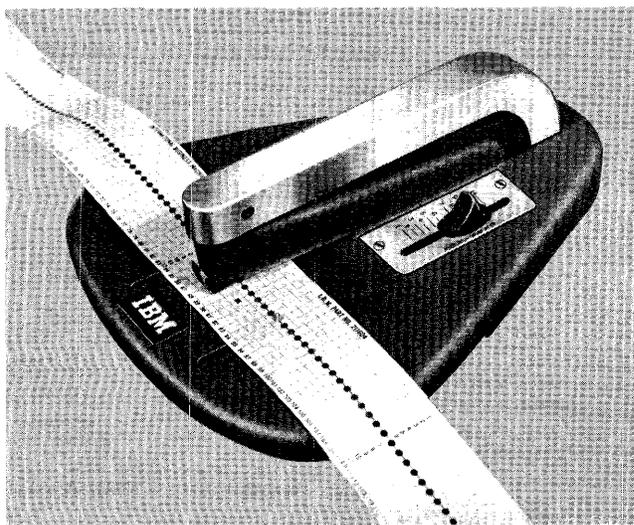

Figure 15. Tape Punch
**Six-Lines-per-Inch Spacing:** A small, compact punch (Figure 15) is provided for punching the tape. The tape is first marked in the channels in which the holes are to be punched. This can be easily done by laying the tape beside the left edge of the form it is to control, with the top line (immediately under the glue portion) even with the top edge of the form. Then a mark is made in the first channel, on the line that corresponds to the first printing line of the form. Additional marks are made in the appropriate channels for each of the other skip stops, and for the overflow signal required for the flow.